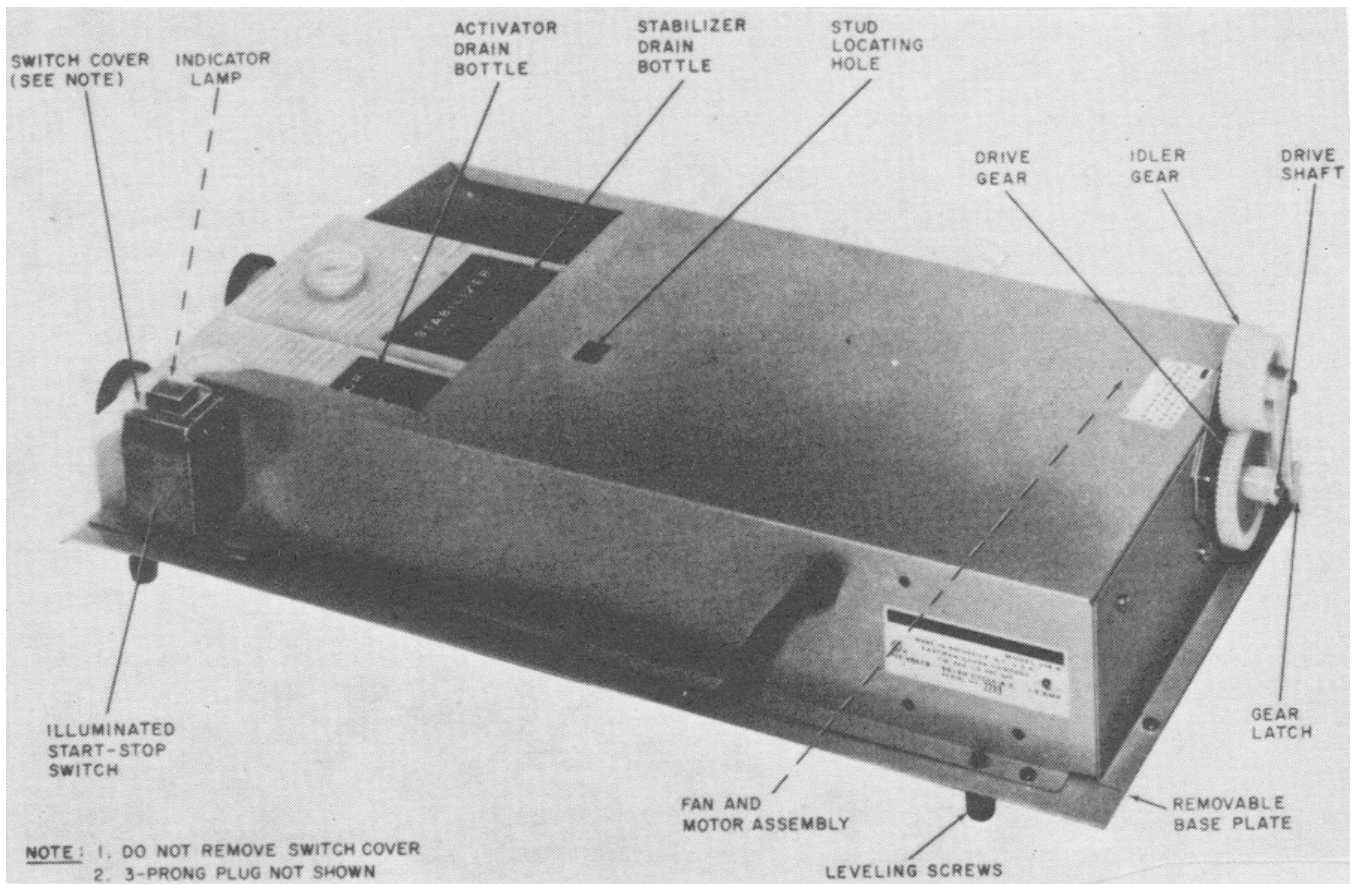
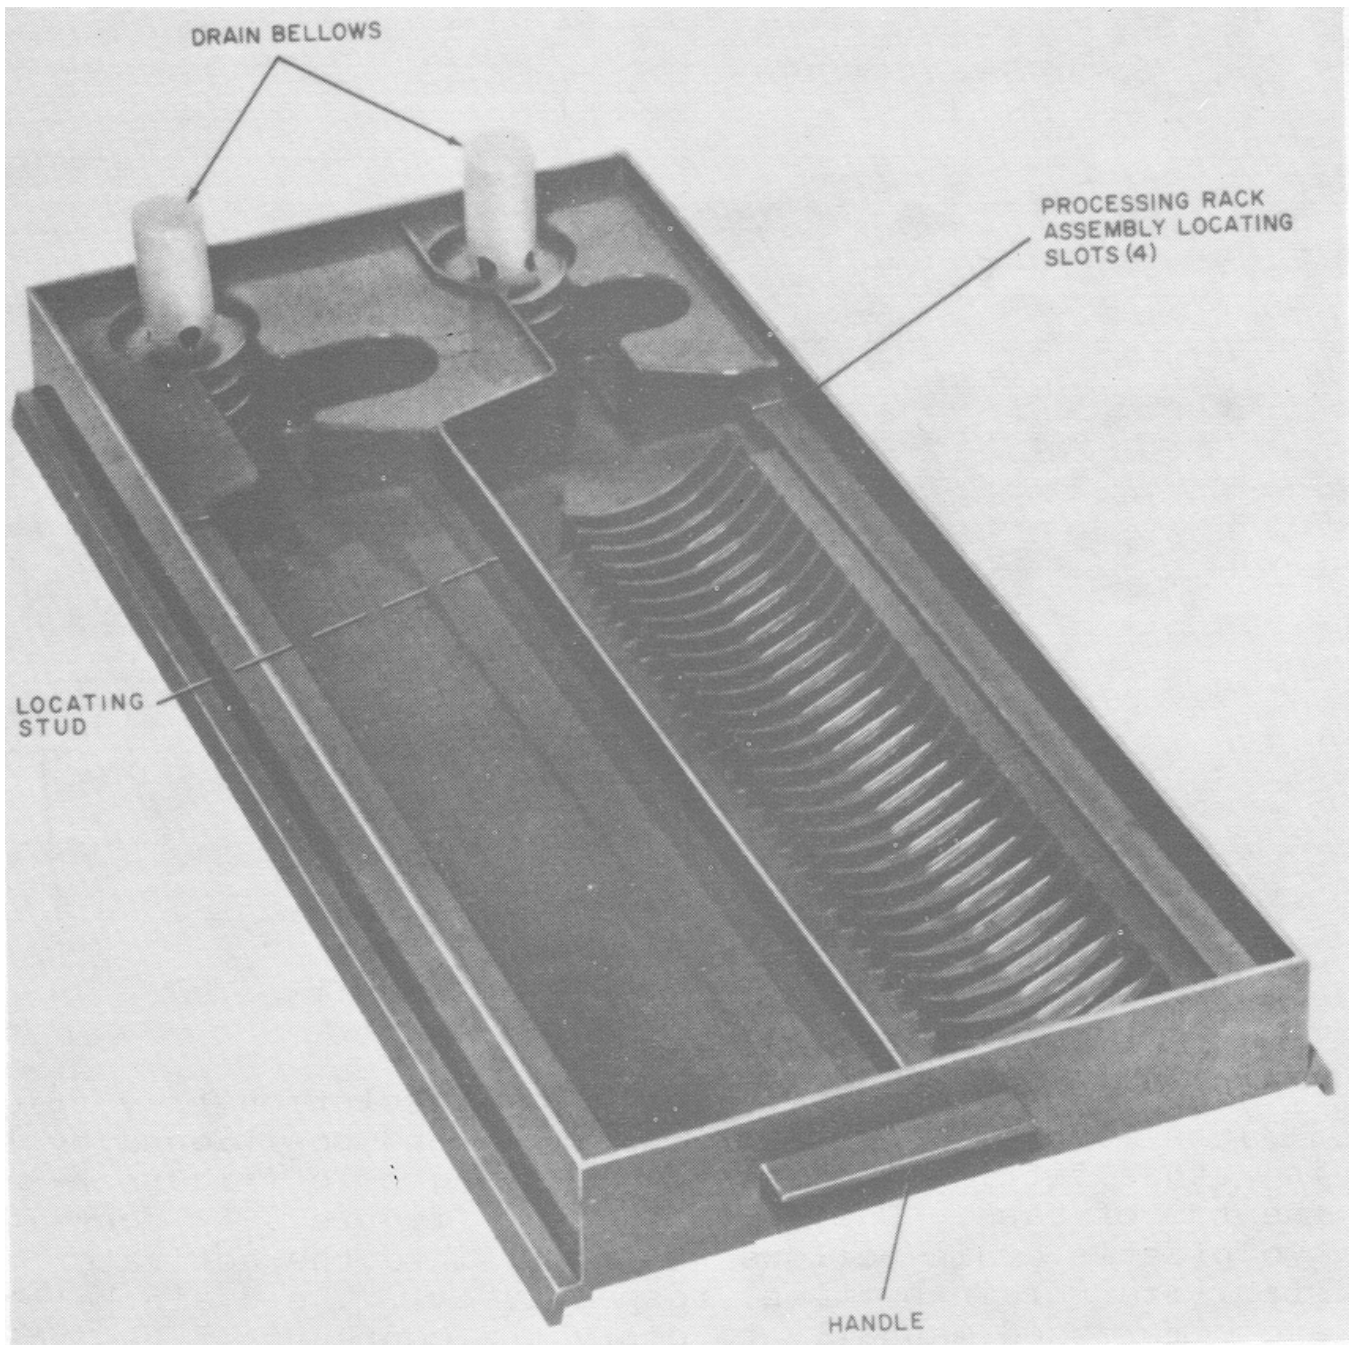
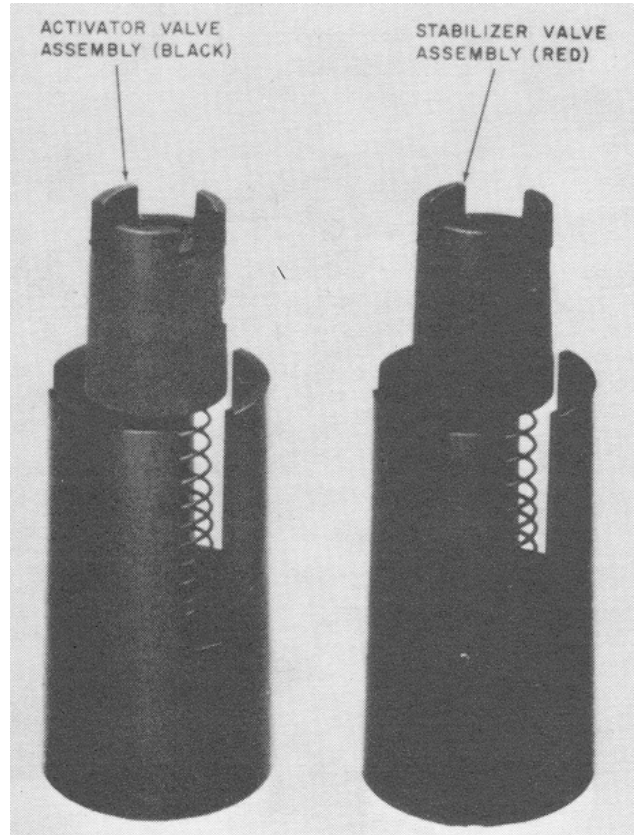
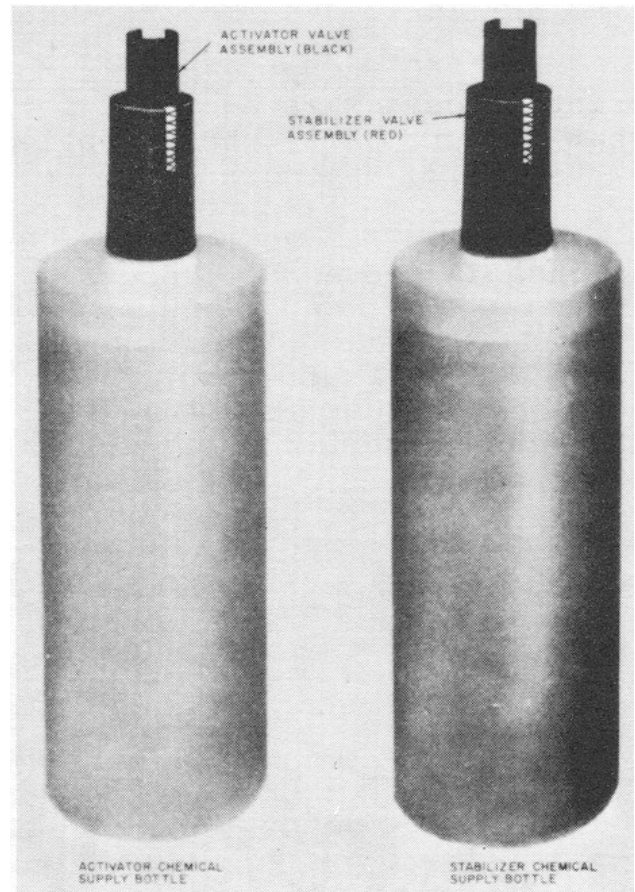

FIGURE 3-2. Base assembly.
FIGURE 3-3. Solution tray.
FIGURE 3-5. Stabilizer and activator valve assemblies.
FIGURE 3-11. Assembly of stabilizer and activator valve assemblies to chemical supply bottles.
b. Base assembly. The base assembly (figure 3-2) is made of steel and contains a removable baseplate on the underside, which provides access to the fan and motor assembly. The drive shaft protrudes through one side of the base assembly and mounts the nylon drive gear. Above and engaging the 60 Hz drive gear is a nylon idler gear and gear latch. The power cord passes through the rear of the base and terminates in a three-prong plug. On the front of the base is mounted an illuminated start-stop switch. The activator and stabilizer drain bottles fit into their respective locations on the base assembly when the solution tray is removed. A leveling screw may be counted in each corner at the bottom of the base.
c. Solution tray. The plastic solution tray (figure 3-3) is mounted on the base assembly and positioned by locating studs fitting into a stud locating hole (figure 3-2) at the top of base. The solution tray (figure 3-3) contains two plastic drain bellows which fit into the activator and stabilizer drain bottles, respectively. The drain bellows are compressed manually to empty the contents of the solution tray into the drain bottles.
gear on the base assembly (figure 3-2), and is secured by the gear latch as shown in figure 3-8.
g. Valve assemblies. Two color-coded plastic spring-loaded valve assemblies (red for stabilizer and black for activator (figure 3-5) are used to maintain the correct level of each solution in the solution tray (figure 3-3). Each valve assembly (figure 3-5) is screwed onto the top of its corresponding stabilizer and activator chemical supply bottle (figure 3-11).
h. Drain bottles. Two plastic drain bottle assemblies (figure 3-2) (red label and cap for stabilizer and black label and cap for activator) are used to store the chemical solutions until disposal.
(1) Check to see that the solution tray (figure 3-3) is clean (para).
(2) Place the solution tray on top of the base assembly with the drain bellows to the left, so that the locating stud on the bottom of the solution tray mates with the stud locating hole (figure 3-2) on the top of the base assembly.
(3) Make certain that the opening at the bottom of each drain bellow mates with the opening at the top of each drain bottle.
(3) Insert the roller drive pin into the roller shaft.
(4) Make certain that the hole in the roller shaft is horizontal.
(5) Slide the driven gear onto the roller shaft, with the hub of the gear toward the processing rack assembly until the gear hub encloses the roller drive pin.
(6) Push the Teflon retaining washer on the roller shaft until it seats in the groove on the roller shaft.
(7) Grasp the processing rack assembly by the frame flanges and with the driven gear toward the right side of the print processor, place the rack assembly in the solution tray so that the bottom edges of the frame assembly fit into the locating slots (figure 3-3).
(1) Remove the cap from each of the one-quart chemical supply bottles.
(2) Screw a valve assembly onto each bottle as shown in figure 3-11.
(3) Tighten each valve assembly securely.
(3) Remove the valve assemblies (figure 3-11) from the chemical supply bottles. Rinse the valve assemblies thoroughly in cold water and shake to dry. If chemical supply bottles are to be refilled, rinse each thoroughly with cold water and drain dry. If chemical supply bottles are not to be refilled, they may be discarded after rinsing.
(4) Screw the activator valve assembly (black) on the new or refilled activator chemical supply bottle. Screw the stabilizer valve assembly (red) on the new or refilled stabilizer chemical supply bottle. Store [at a temperature of 65° to 85° F (18° to 29° C)] the two chemical supply bottles to await installation.